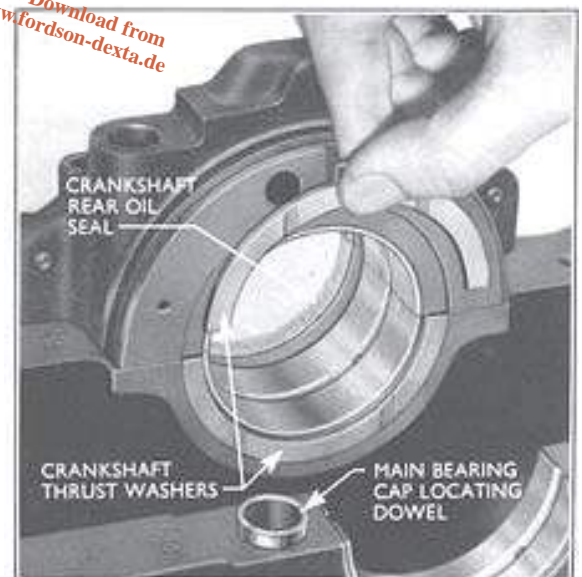

Fig. 27
The crankshaft end-float is controlled by detachable thrust washers fitted at each side of the rear main bearing cap. The lower halves of these thrust washers have suitable locating lugs to prevent them from turning out of position. Fit the crankshaft thrust washers in the recess at each side of the rear main bearing cap with their oil grooves outwards (see Fig. 27).
3. Locate the upper halves of the crankshaft thrust washer on either side of the rear wall of the cylinder block with the oil grooves outwards (see Fig. 27). The upper halves of these washers do not have locating tabs.